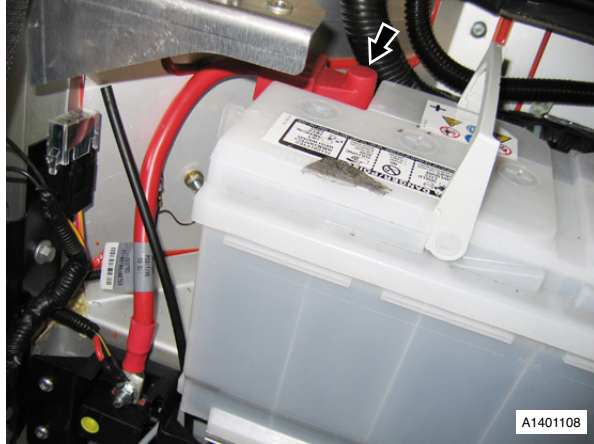

Fig. 1
8. Loosen terminal nut, disconnect main battery cable (see Fig. 1).